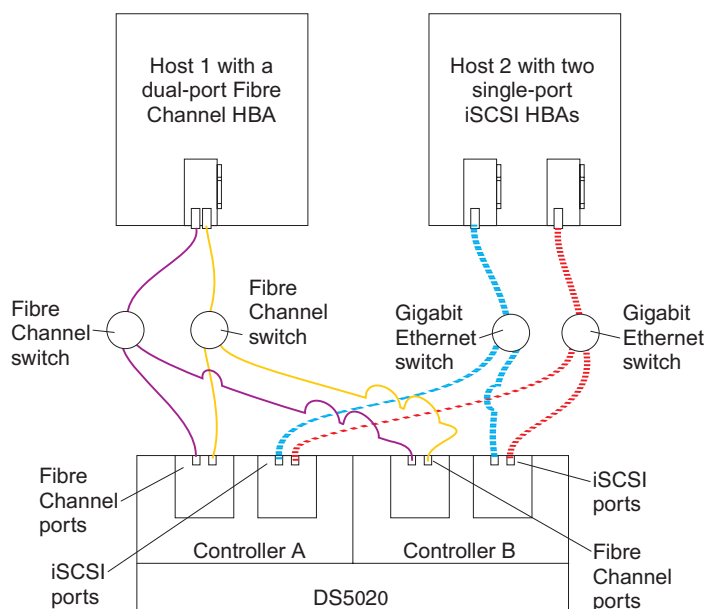

Figure 65. Example of a multiple-host, multiple-port, multiple-switch configuration
- Multiple-host, multiple-port, multiple-switch configuration, as shown in Figure 65 on page 94
Figure 65 on page 94 shows an example of a multiple-host, multiple-port, multiple-switch configuration.